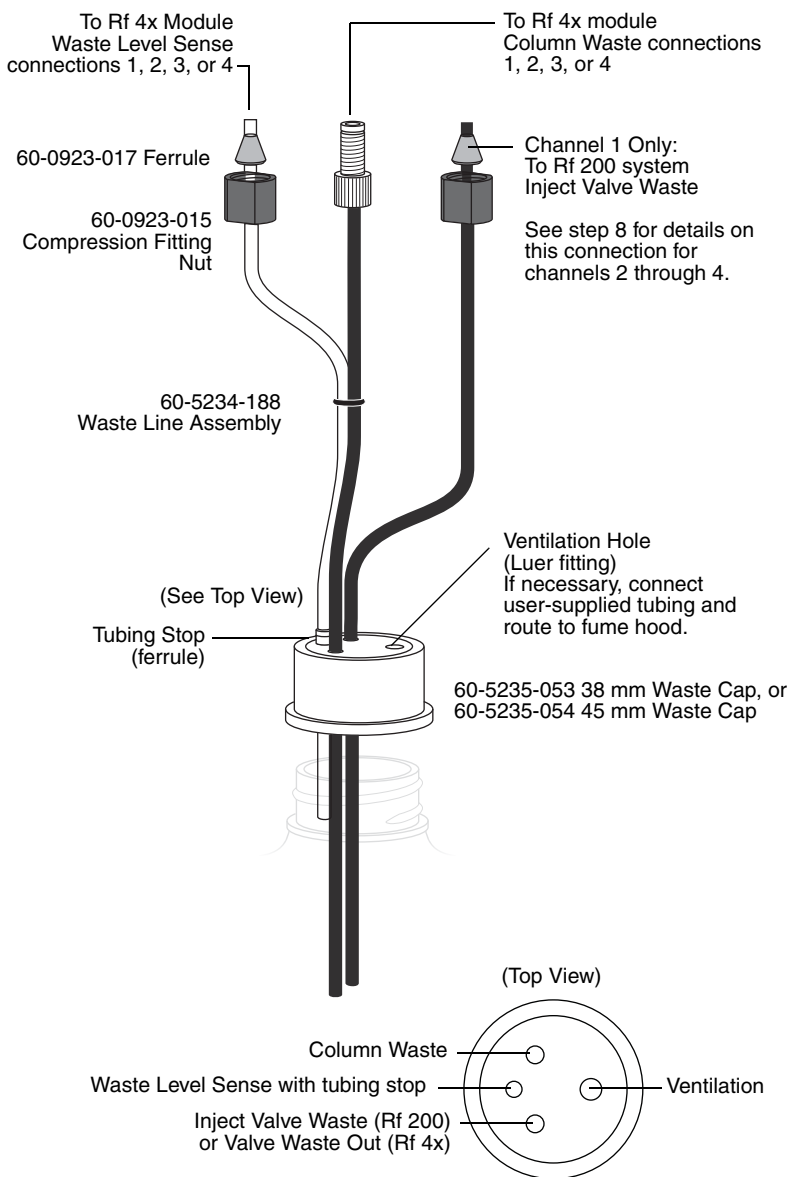

Figure 4-5 Recommended Rf 4x module channel 1 waste connections
- e. At the waste container cap for channel 1, insert the natural tubing into the Waste Level Sense opening (Figure 4-5). Push the stop (ferrule) on the Waste Level Sense tubing against the cap. This ensures that the Waste Level Sense tubing is far enough into the container to detect when it is nearly full.